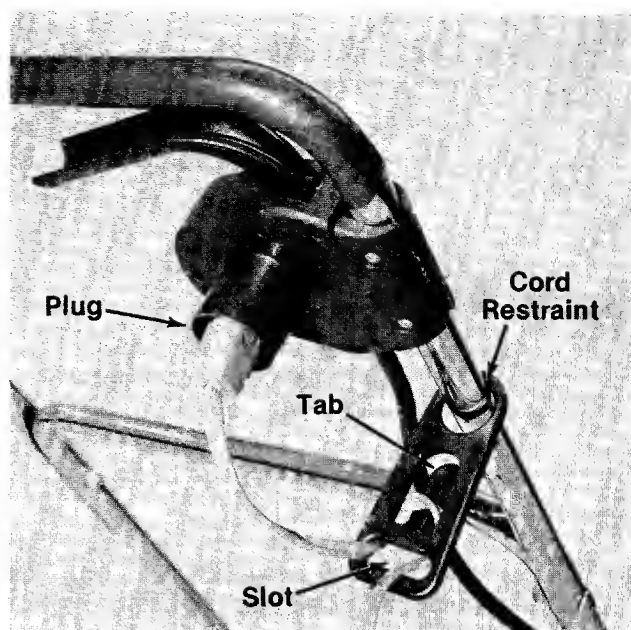

FIGURE 7.
The outlet on the mower for the power source is located on the back side of the motor/blade control. See figure 7.
3. Form a small loop in the extension cord. Slip the loop through the slot on the bottom of the cord restraint, and up over the tab, to prevent disconnection from the motor/blade control during operation. Keep the cord restraint as close to the motor/blade control as possible. See figure 7.